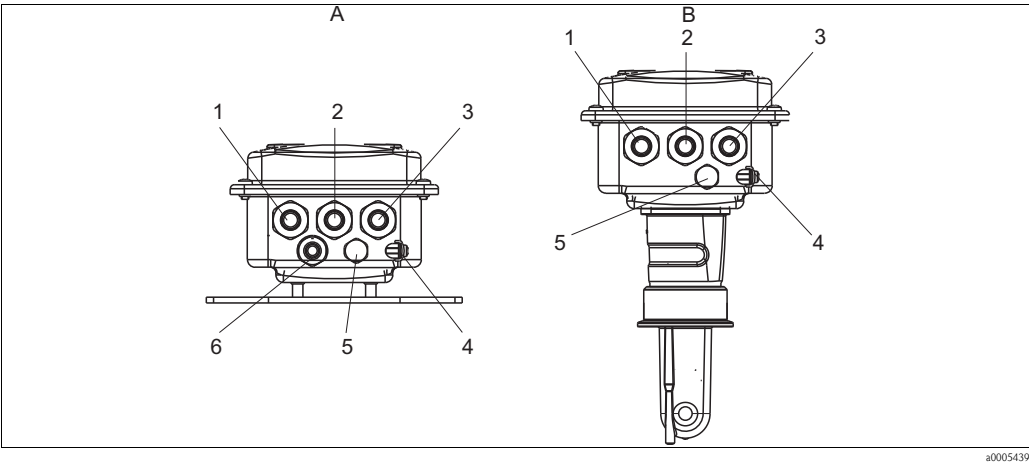

Fig. 19: Terminal assignments of cable glands on Smartec S CLD134
3. Thread the cables through the open cable glands into the housing according to the terminal assignments in Fig. 19.